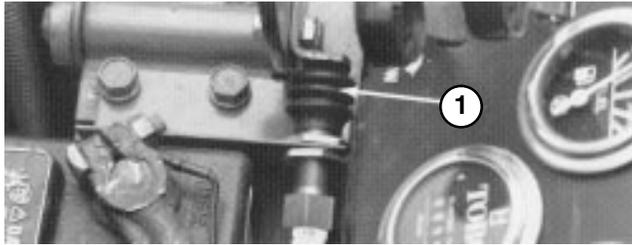

Figure 42
3. Remove boot from button end of PTO switch (Fig. 42). Retain boot for reinstallation. Separate switch wire connectors.